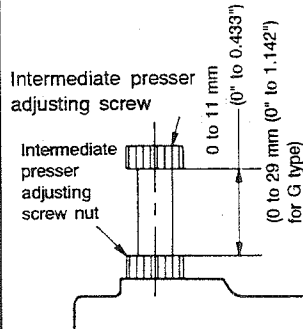

Fig. 5-20-1
- o The clearance between the intermediate presser adjusting screw and the intermediate presser adjusting screw nut is 0 to 11 mm (0" to 0.433") (0 to 29 mm (0" to 1.142") for the G type). (Fig. 5-20-1)
- 1) Adjust so that the clearance between the intermediate presser adjusting screw and the intermediate presser adjusting screw nut is 0 to 11 mm (0" to 0.433") (0 to 29 mm (0" to 1.142") for G type). (Fig. 5-20-1)